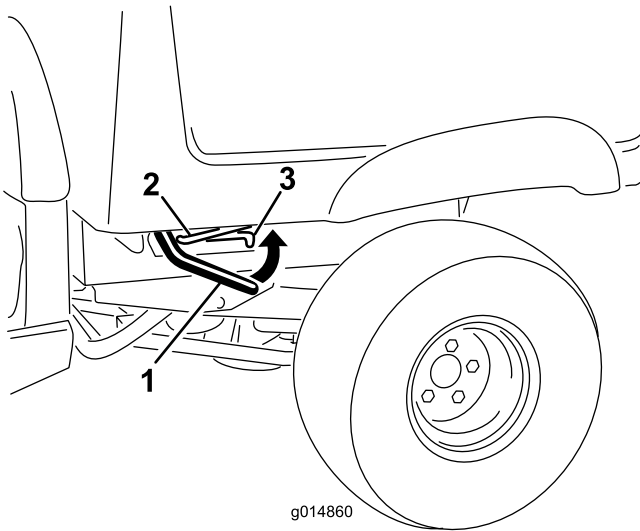

Figure 1
4. Lift the lever on either side of the cargo bed and lift the bed up (Figure 1).